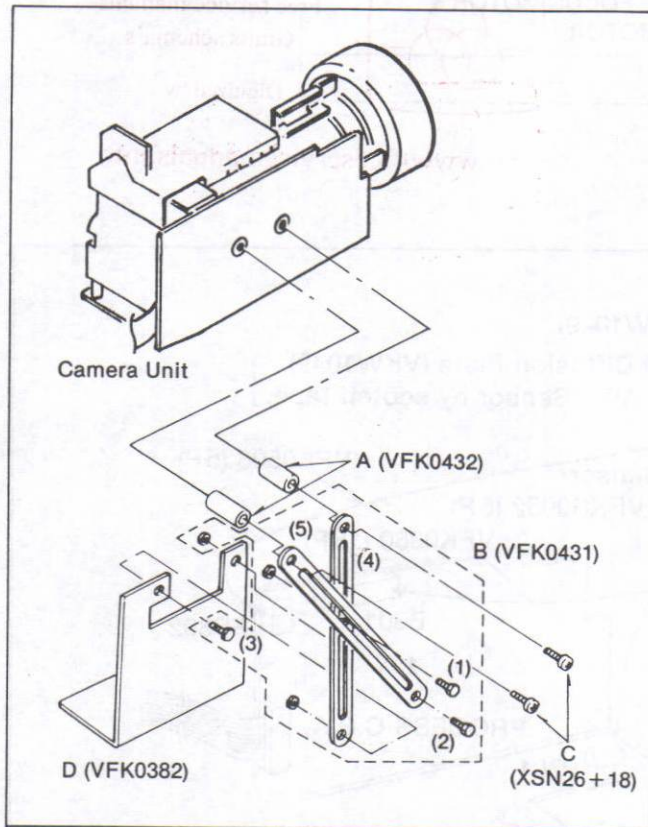

Fig. S5
1. Fix the Holder Arm (4) and (5) temporarily by screw (1) as shown in Fig.S5.
3. Tighten the screws (C) with the Holder Spacers (A) as shown in Fig. S5.